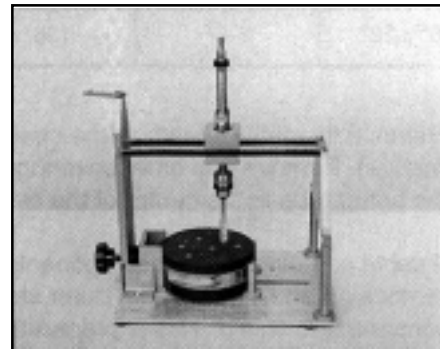

FIGURE 9 – BLADE POSITIONED
- Then, tighten the clamp screw and thumb screw on the bearing block. (Figure 9)